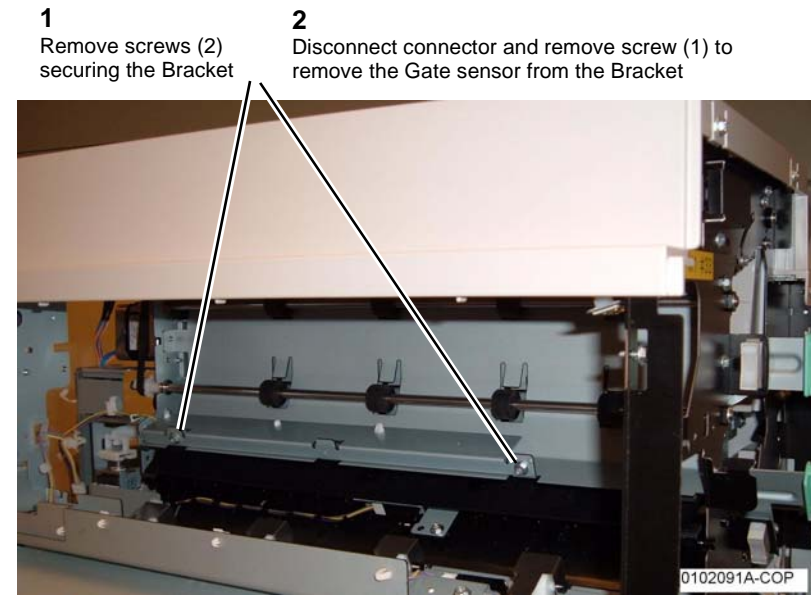

Figure 1 Removing the Gate Sensor
6. Remove the Gate Sensor (Figure 1).